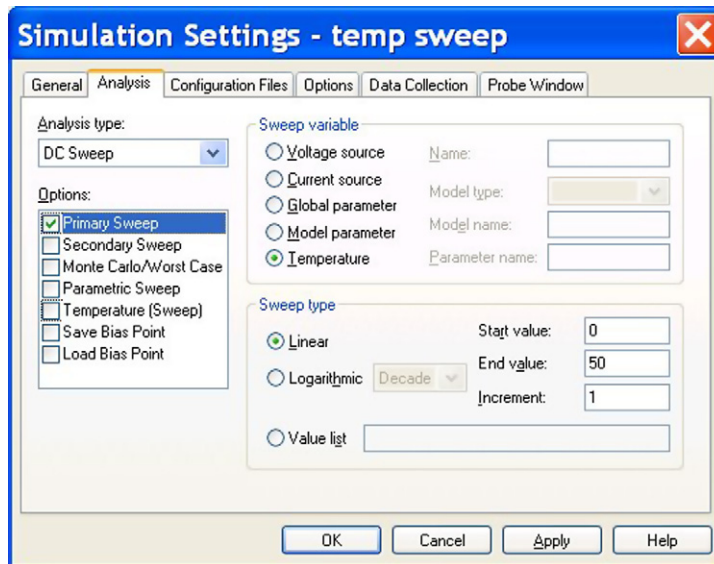

FIGURE 15.6
- Set up a DC linear temperature sweep from 0°C to +50°C in steps of 1°C as shown in Figure 15.6.